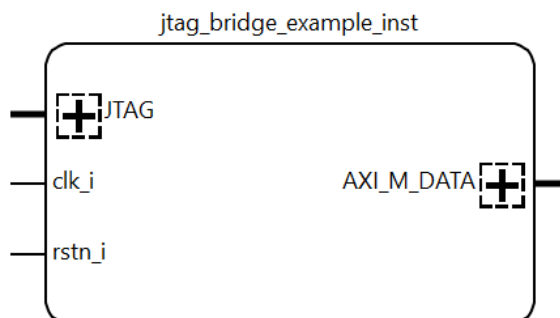

Figure 3.5. Generated Instance
6. The JTAG Bridge IP instance is successfully generated, as shown in Figure 3.5.